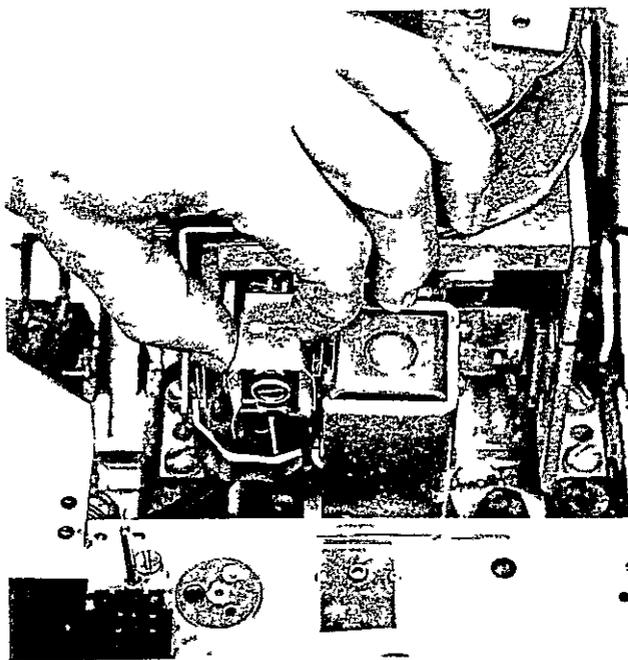
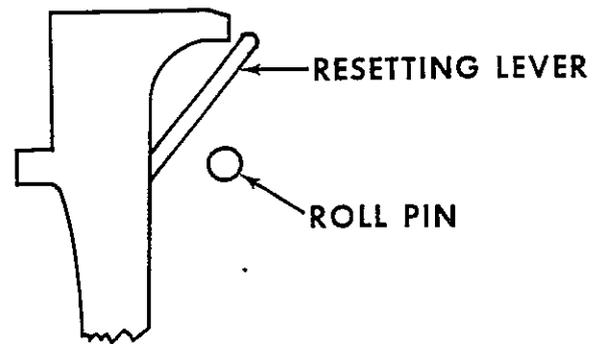

Fig. 6. View, left side mounting
Fig. 11. Roll pin position
1. Block the breaker crossbar down at least 1" so that the mechanism resetting pin will be below the shunt trip slide resetting surface. See Fig. 6.
- c. Insert shunt trip leads into mechanism above the trip slide extension arm so that leads come out of the mechanism below the extension arm. See Fig. 6.
- a. Place the shunt trip device inside the breaker mechanism frame, as shown in Fig. 6 or 7.
NOTE: It is very important to be sure the resetting roll pin is beneath the resetting surface of the resetting lever. See Fig. 11 and Fig. 6.
3. Refer to step 4a-4e on pages four and five and Fig. 6 to install blown fuse trip device.